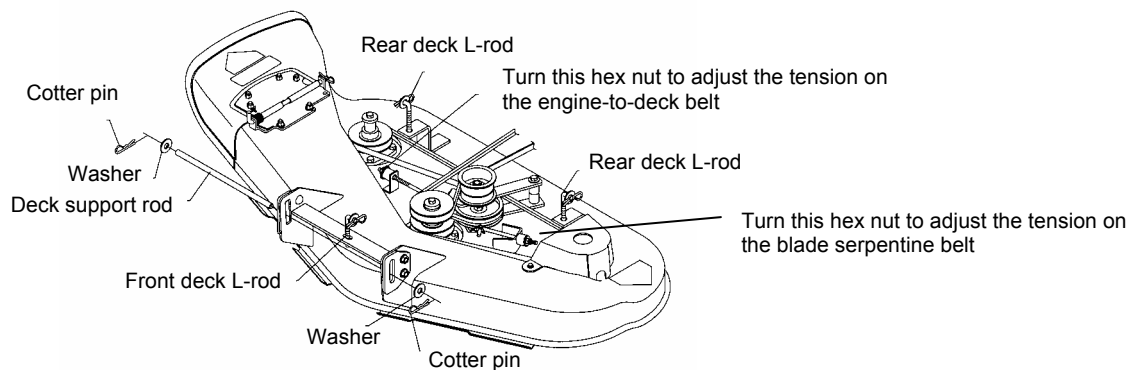
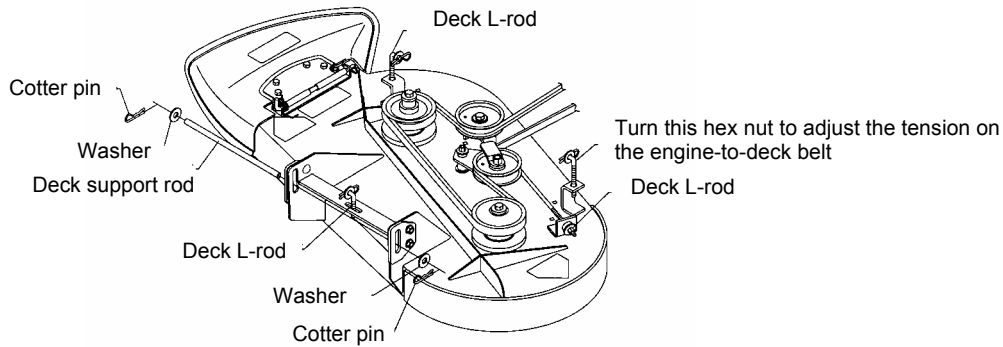

Figure 20. 42-inch mower deck
Figure 21. 36-inch mower deck
The process for removing the deck is the same for both the 36-inch and 42-inch models. Only the location of the engine-to-deck belt idler L-rod differs. Refer to *Figure 20* and *Figure 21* for the location of the parts used in this procedure.
4. Install the new belt, correctly aligning it on the pulleys. Start with the engine pulley. For 36-inch models, refer to *Figure 20*; for 42-inch models, refer to *Figure 21*.